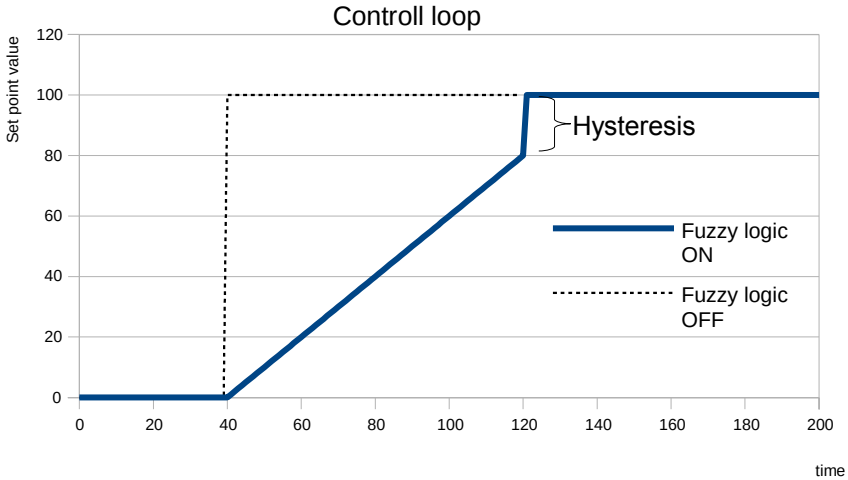

Fig. 7.118. Comparison of response of controller on change set point value with and without fuzzy logic block use
- **Hysteresis** – defines the value of hysteresis (see **Fig. 7.118**),